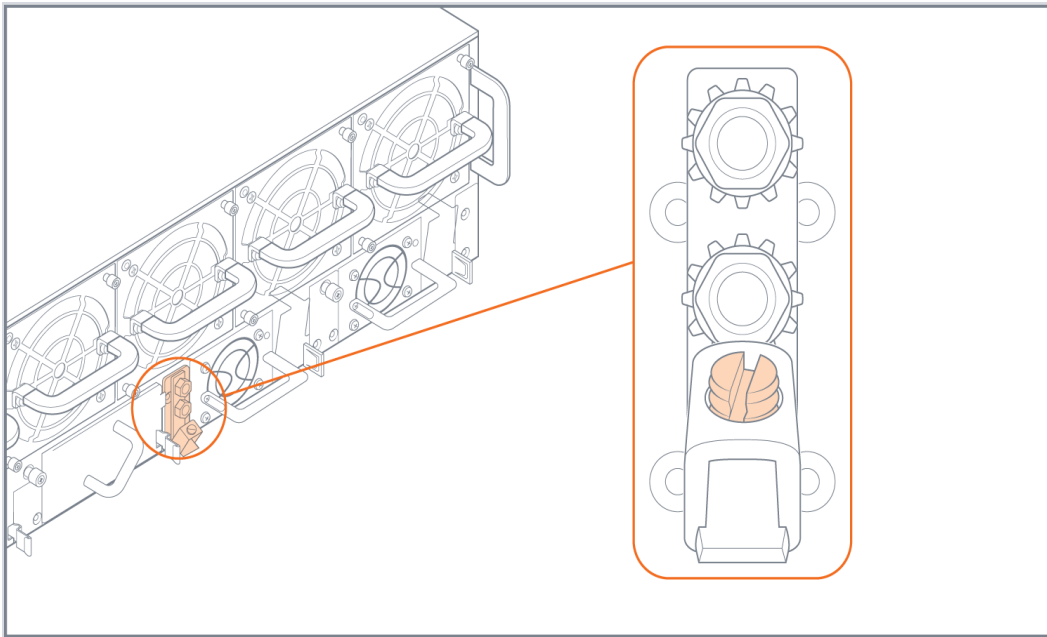
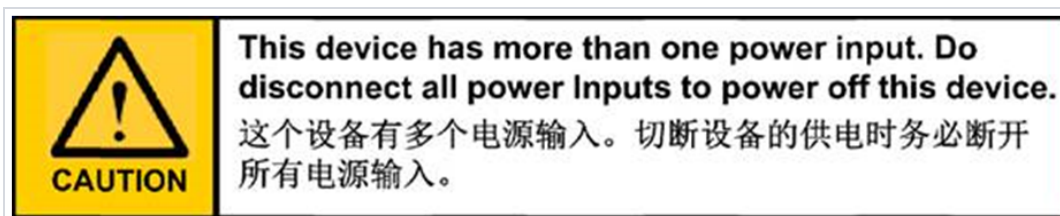

Figure 1: Grounding Lug on Rear of GigaVUE-HC3
Figure 3: Power Caution Label
1. Locate the grounding lug at the center rear of the chassis. Refer to Figure 1: Grounding Lug on Rear of GigaVUE-HC3 on page 73 (or Figure 3: Rear View of the GigaVUE-HC3 Chassis on page 11) for the location on a GigaVUE-HC3 node.